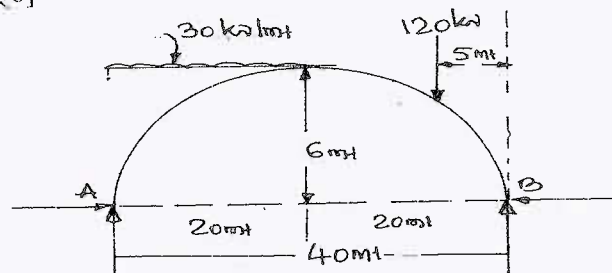

Fig.Q8
- 8 A two hinged parabolic arch of span 40 mt and carries a udl of 30 kN/mt over left half portion and a concentrated load of 120 kN at 5 mt from right hand support. Find the horizontal thrust and normal thrust and radial sheath at 10 mt from right hand support. [Refer Fig.Q8]